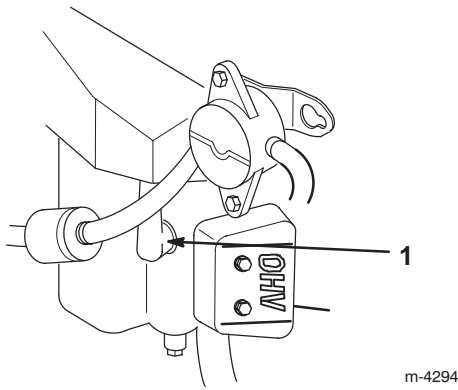

Figure 40
3. Disconnect the wires from the spark plugs (Fig. 40).
3. Connect the wires to the spark plugs (Fig. 40).